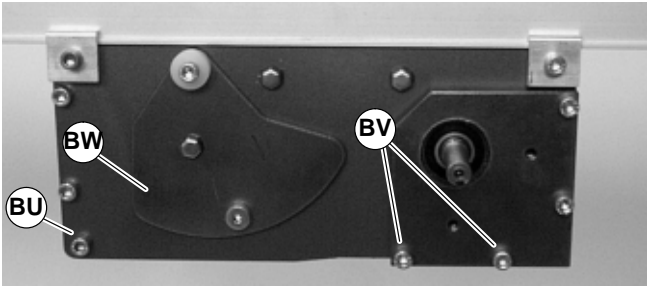

Figure 32
12. Tighten corner screws (BU of Figure 32) on each side of the drive module to 80 in-lb (9 Nm).
13. Re-install tension door screws (BV of Figure 32) on each side of the module. Tighten screws to 80 in-lb (9 Nm).
NOTE: For a new belt, the tension plate will be in position indicated in Figure 32 (BW). When the tension plate extends to position indicated in Figure 33 (BW), the conveyor belt must be replaced.